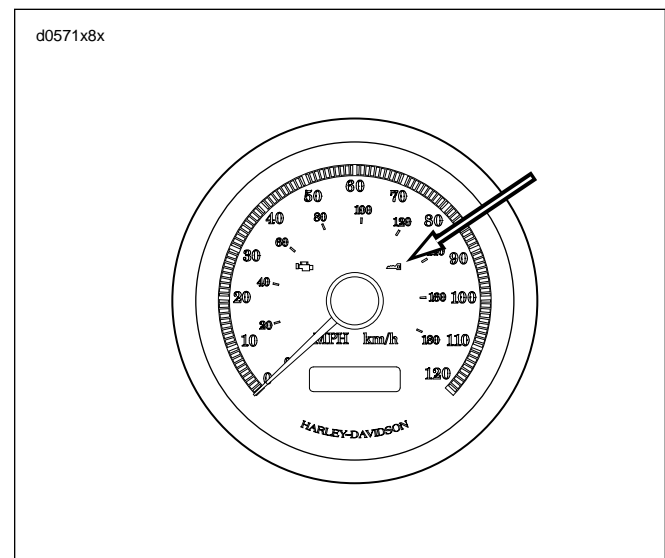

Figure 3-5. TSSM Lamp
- **Security status lamp:** See Figure 3-5. A lamp within the speedometer face tells the rider if the system is armed or disarmed.